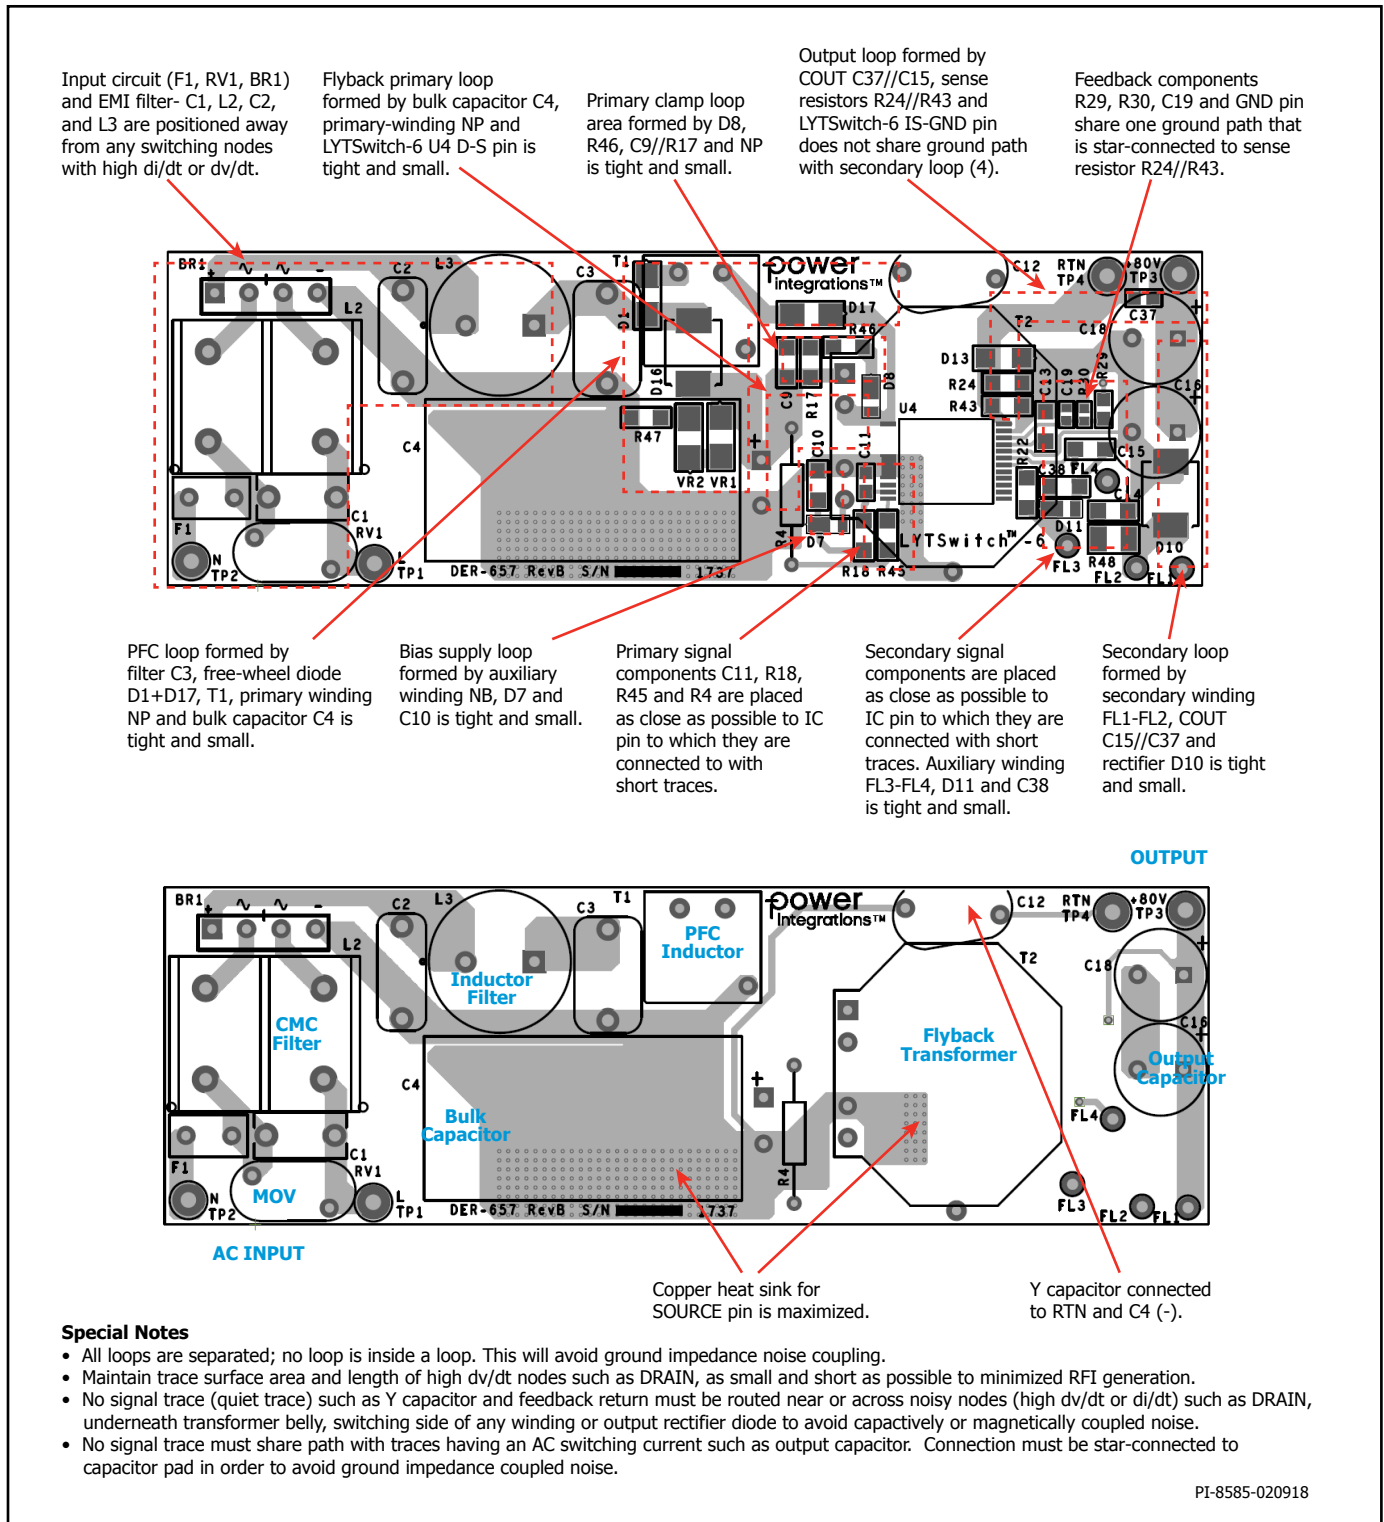

Figure 14. TOP and BOTTOM Sides – Ideal Layout Example Showing Tight Loop Areas for Circuit with High dv/dt and di/dt, Component Placement.
For output constant current (CC) operation, external current sense resistor  $R_{IS}$  should be connected between the ISENSE pin and the SECONDARY GROUND pin of the IC as shown in Figure 14. If constant current (CC) regulation is not required, this pin should be connected to the SECONDARY GROUND pin of the IC.
Use a single-point ground connection from the input filter capacitor to the area of copper connected to the SOURCE pin. See Figure 14.
Loops for circuits with high dv/dt or di/dt should be kept as small as possible. The area of the primary loop – input filter capacitor to transformer primary winding to IC should be kept small. Ideally, no loop should be inside another loop (see Figure 14). This will minimize cross-talk between circuits.
1. Appropriate component placement and small loop areas for the primary and secondary power circuits minimizes radiated and conducted EMI. Care should be taken to achieve a compact loop area. (See Figure 14)
7. A  $\pi$  filter comprising differential inductors and capacitors can be used in the input rectifier circuit to reduce low frequency differential EMI. A ferrite bead (Figure 14) can be added to further improve EMI.